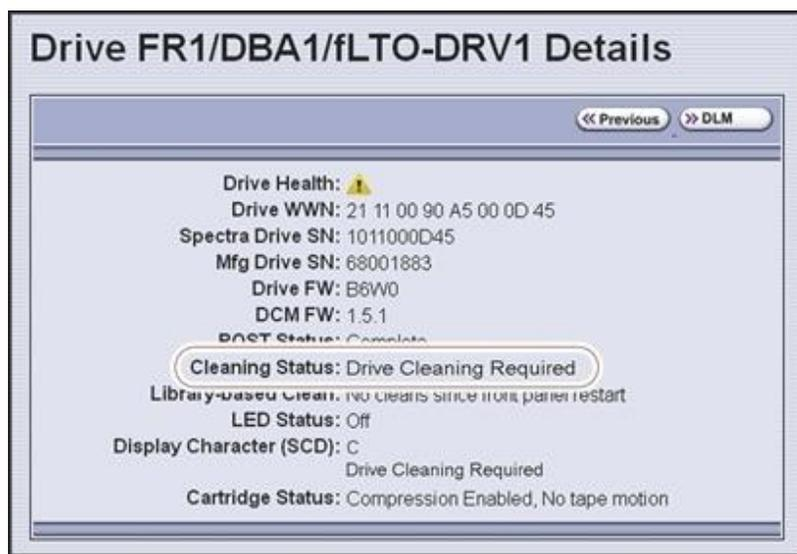

Figure 290 The Cleaning Status indicates that cleaning is required.
Whenever a tape is loaded or unloaded, the read/write heads are physically cleaned by a brush located within the drive. However, after reading and writing a large amount of data (the exact amount varies by drive type and generation) or if read or write errors occur, the drive requests to be cleaned with a cleaning cartridge. The request is made by sending a Tape Alert message to the host, and displaying a **C** on the SCD for an LTO drive or **CLEAN*** on the MCD for a TS11xx technology drive. The notification is also posted to the library's Drive Details screen (Figure 290 on page 500) and the DLM drive health icon for the drive changes to yellow (see Using the Drive Health Icons on page 356 for additional information).
- The Drive Details screen indicates that the drive needs cleaning or displays a **C** on the SCD for an LTO drive or **CLEAN*** on the MCD for a TS11xx technology drive (see Figure 290 on page 500).